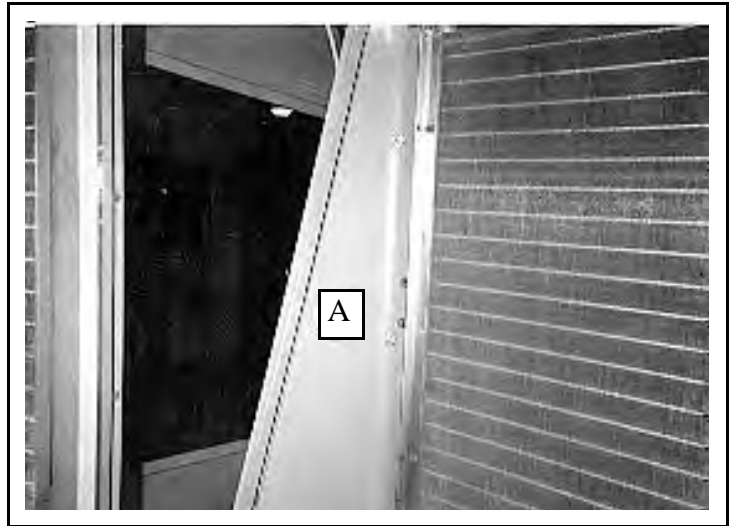

FIGURE 4 (MSSM0113AE)
6. Remove panel from front left of machine (FIGURE 4, Item A).